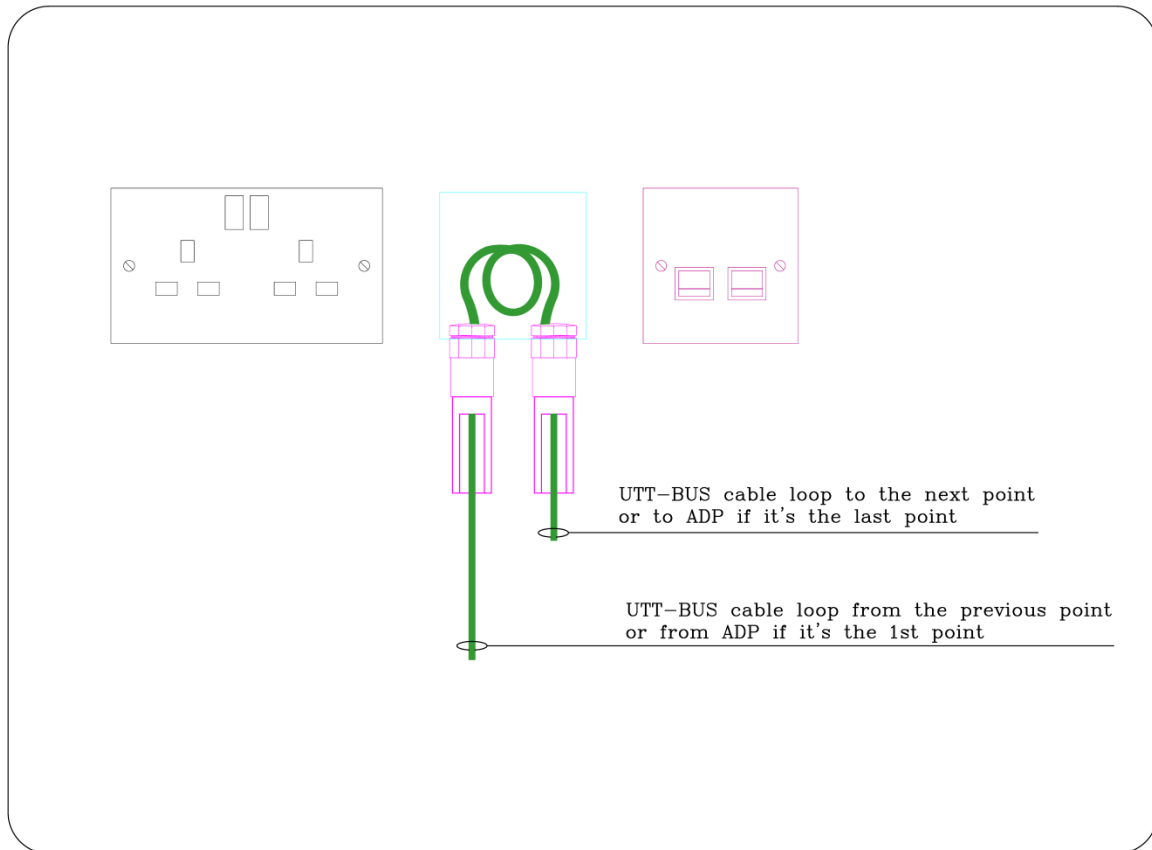

Figure 1.2.13: E Outlet Layout
1.2.9 ENTERTAINMENT (E) OUTLET
- According to the telecom guidelines, at least 1 dual data socket is available in the living room zone at the TV location. Next to this data socket, an outlet labeled as E with a blank plate should be provided as shown in Figure 1.2.13 along with a dual power socket.